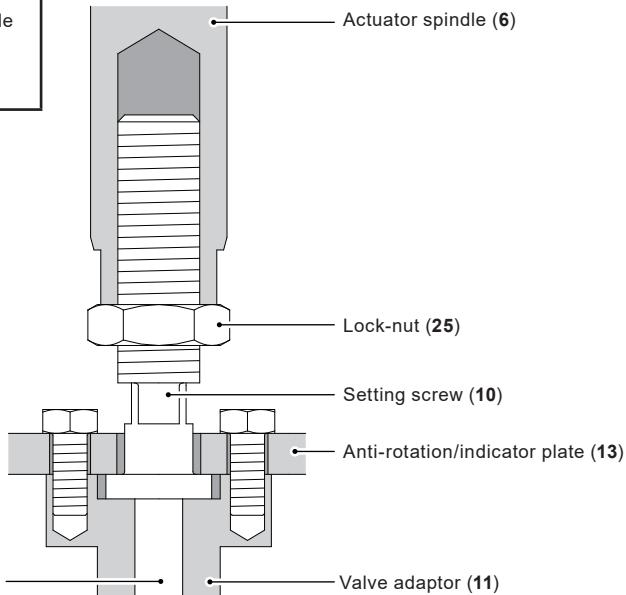
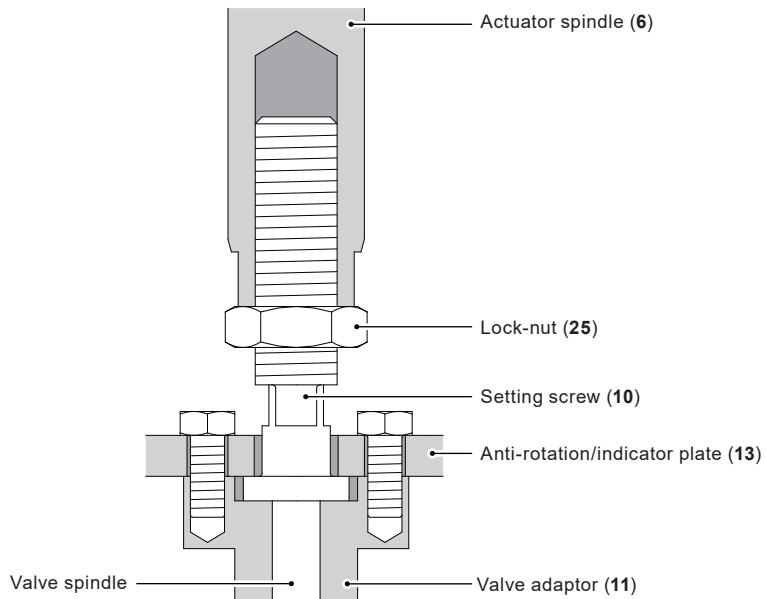

Fig. 5
Fig. 6 Assembly of actuator adaptor, valve adaptor and connectors
- Loosen and remove the M5 screws (26), see Figure 6) and remove the valve adaptor (11).
- Using two spanners whilst holding the actuator spindle (6) loosen the adaptor lock-nut (25).
- With the valve plug remaining on its seat adjust the setting screw (10) until it presses tightly against the valve adaptor (11). Tighten the lock-nut (25). See Figure 5 for correct installation.
To adjust the set point refer to Figure 6 and proceed as follows:
- Loosen and remove the screws (26) and remove the valve adaptor (11).
- Using two spanners whilst holding the actuator spindle (6) loosen the actuator connector lock-nut (25).
- With the valve plug remaining on its seat adjust the valve adaptor (11) until it presses tightly against the setting screw (10). See Figure 6 for correct installation.